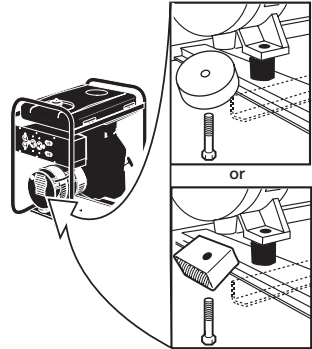

Figure 1
- **(if equipped)** Remove shipping block from under the gen head. Unscrew bolt and remove the shipping block. It is very important that this is removed before starting your generator. See Figure 1.